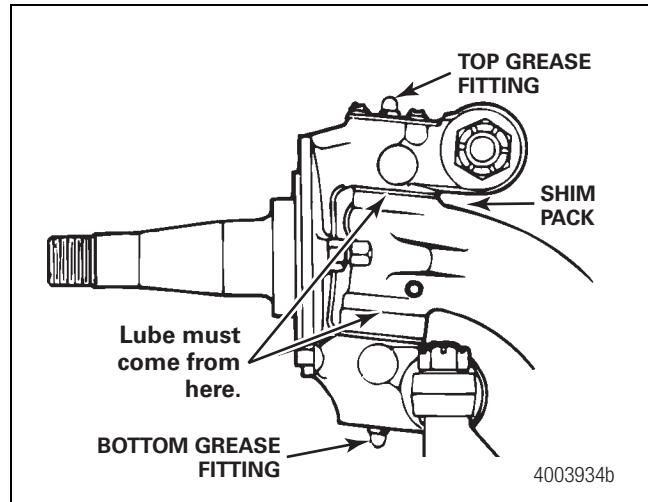

Figure 49
4. Lubricate the pins through the grease fittings on the top and bottom of the knuckle. Figure 49.